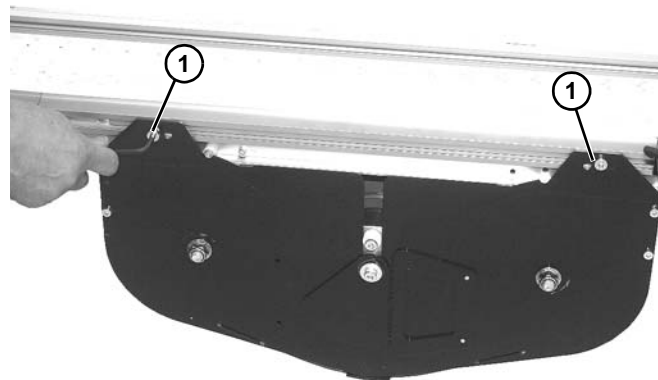

Figure 65
5. Install and tighten two screws (**Figure 65, item 1**) on each side to secure assembly to frame.